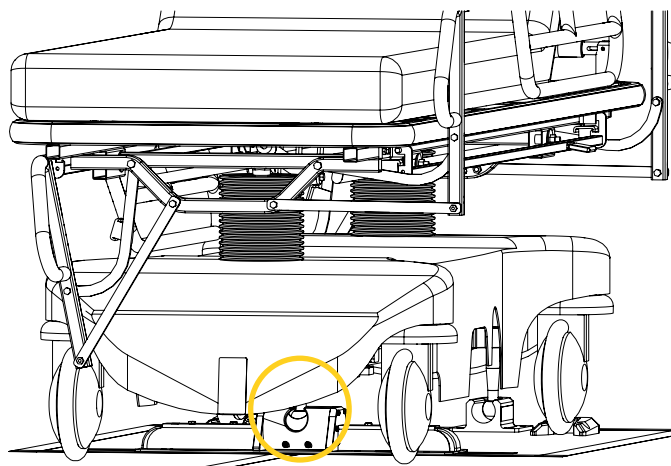

Figure 18: Coupling the stretcher and AnchorMed
4. Insert and lock the stretcher in the anchoring system (Figure 18). Refer to the « Locking/Unlocking the AnchorMed » section on page 24 if needed.